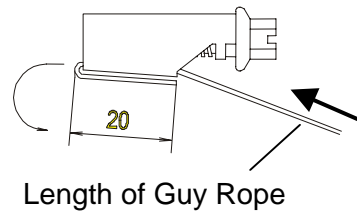

Figure 1
2. Insert the guy rope into the housing from screw head side, and bend an overlap of 20 mm around the saddle. See figure 1.